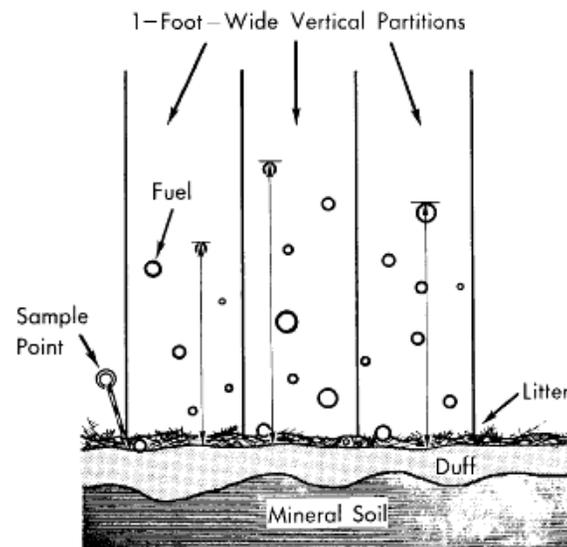

Figure 5.--Cross section of a fuel bed. Depth is measured along the arrows in each 1-foot-wide partition.
Step 6: Take three measurements of dead fuel depth. Record depth as the vertical distance from the bottom of the litter layer to the highest intersected dead particle for each of three adjacent 1-foot-wide vertical partitions of the sampling plane (fig. 5). Litter is the surface layer of the forest floor and consists of freshly fallen leaves, needles, twigs, bark, and fruits. Begin the vertical partitions at the sample point. Record to the nearest whole inch.